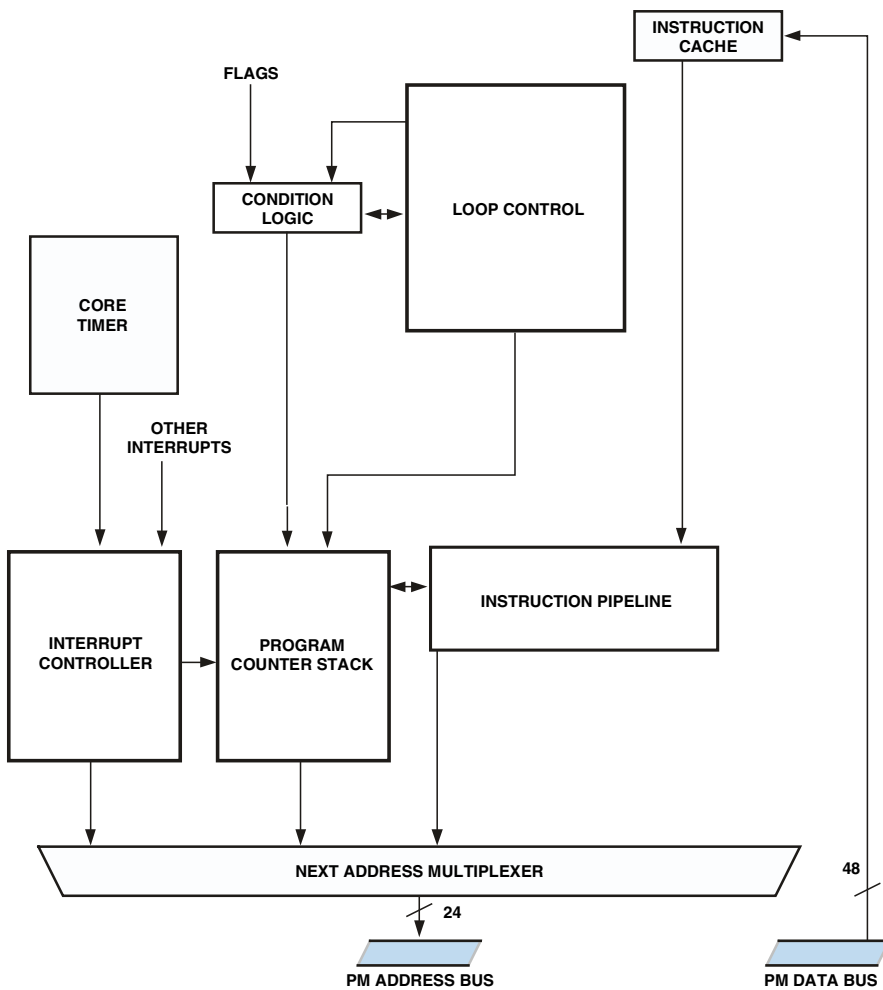

Figure 3-1. Program Sequencer Block Diagram
The sequencer uses the blocks shown in Figure 3-1 to execute instructions. The sequencer's address multiplexer selects the value of the next fetch address from several possible sources. The fetched address enters the instruction pipeline, made up of the fetch address register, decode address register, and program counter (PC) register. These registers contain the 24-bit addresses of the instructions currently being fetched, decoded, and executed. The PC register, in conjunction with the PC stack register, stores return addresses and top-of-loop addresses. All addresses generated by the sequencer are 24-bit program memory instruction addresses.
Refer to Figure 3-1 for a description of how each of the functional blocks are related.
A bus is comprised of two parts: the address bus and the data bus. Because the bus can be accessed continually by different sources (illustrated in Figure 3-1 on page 3-3), there is a potential for bus or block *conflicts*.